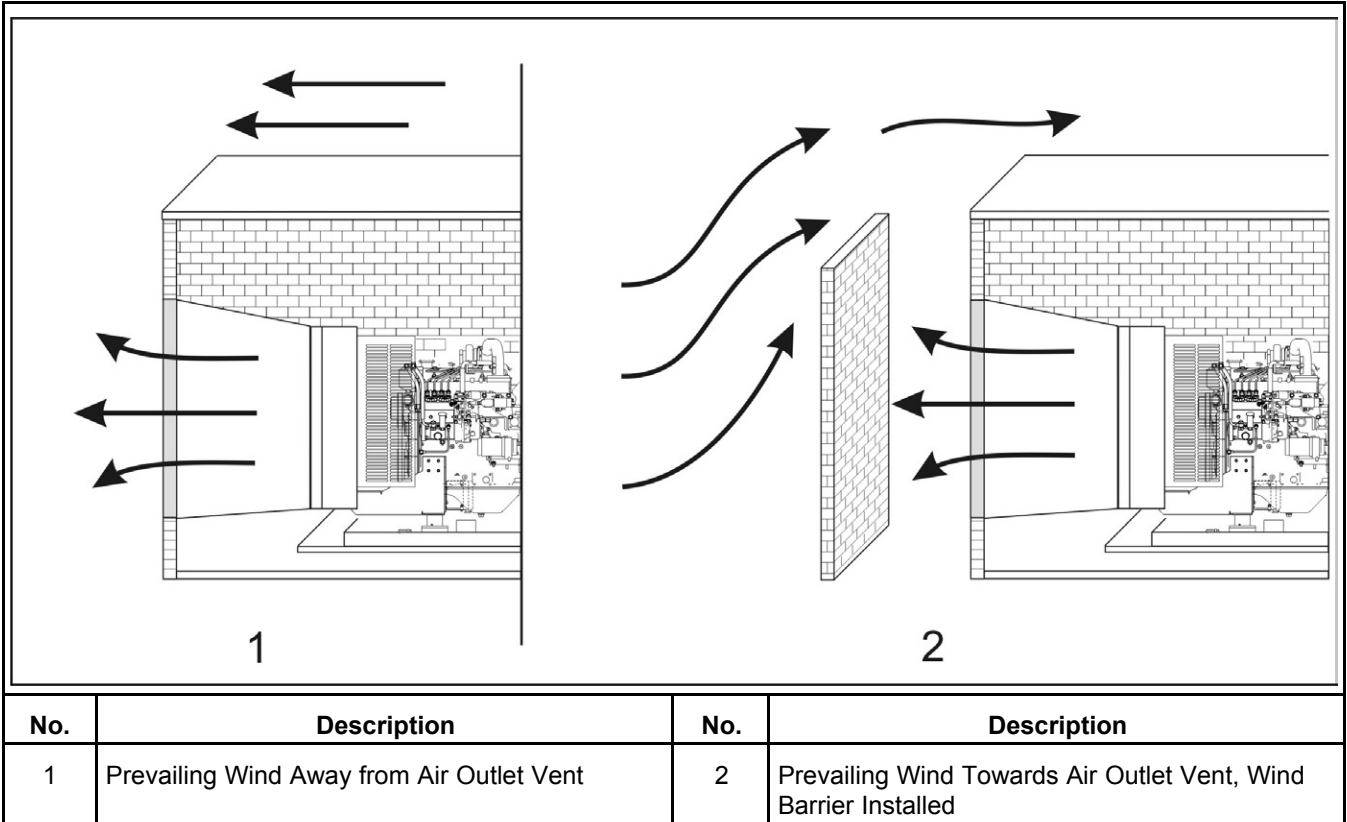

FIGURE 26. WIND BARRIER
3. Wind will restrict free airflow if it blows directly into the air outlet vent. Locate the outlet vent so the effects of wind are eliminated, or if the outlet vent cannot be located as mentioned, install a wind barrier. See Figure 26.